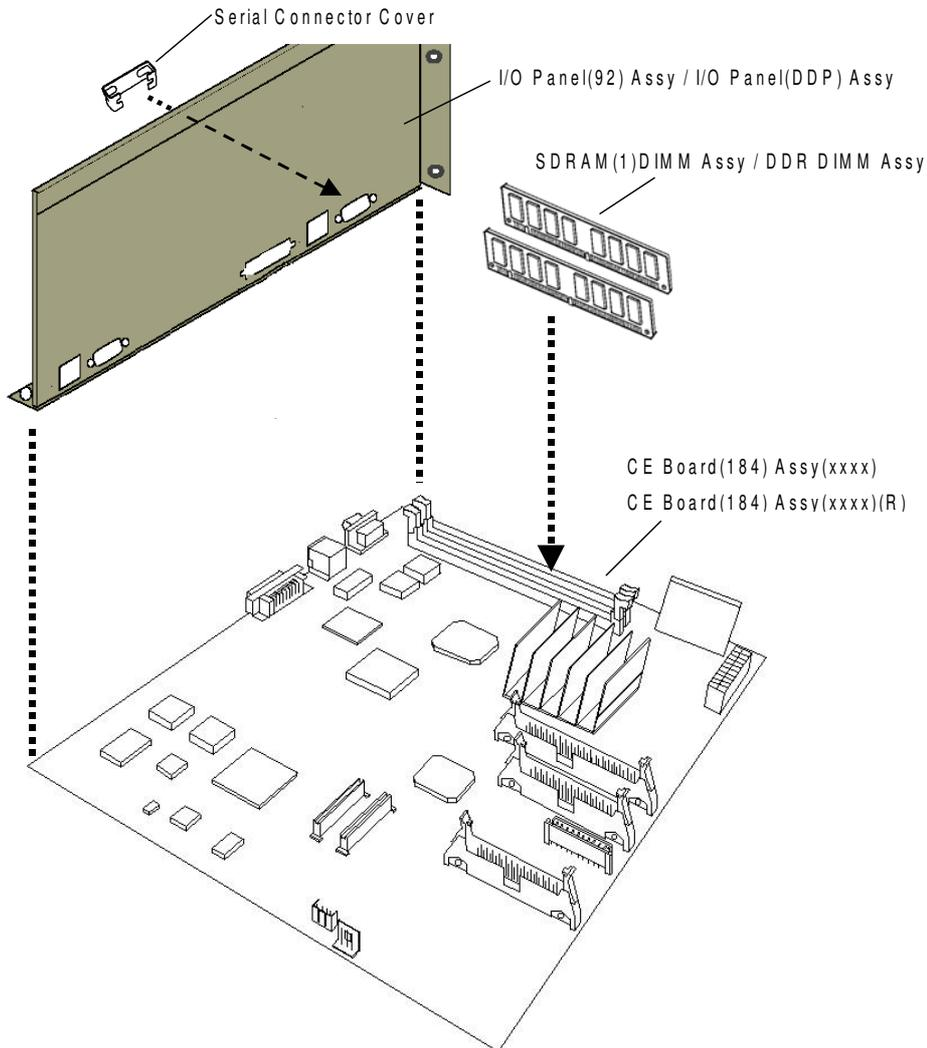

Figure 5-1. Controller Assembly and Parts
See Figure 5-1 for an overview of controller assembly components. Replacement parts are available from your authorized service representative.
4. The controller board is now accessible. A diagram of the controller assembly is shown in Figure 5-1.